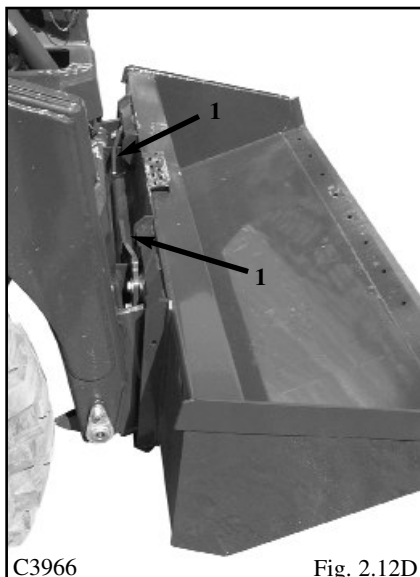

Fig. 2.12D
Push the locking lever (1) fully down (Fig. 2.12D) extending the lock pins (Fig. 2.12E item 2) through the attachment and securing the attachment.